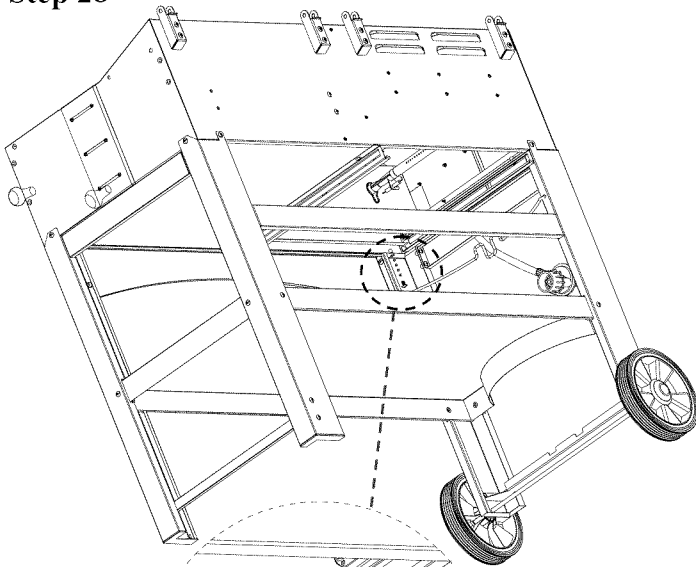
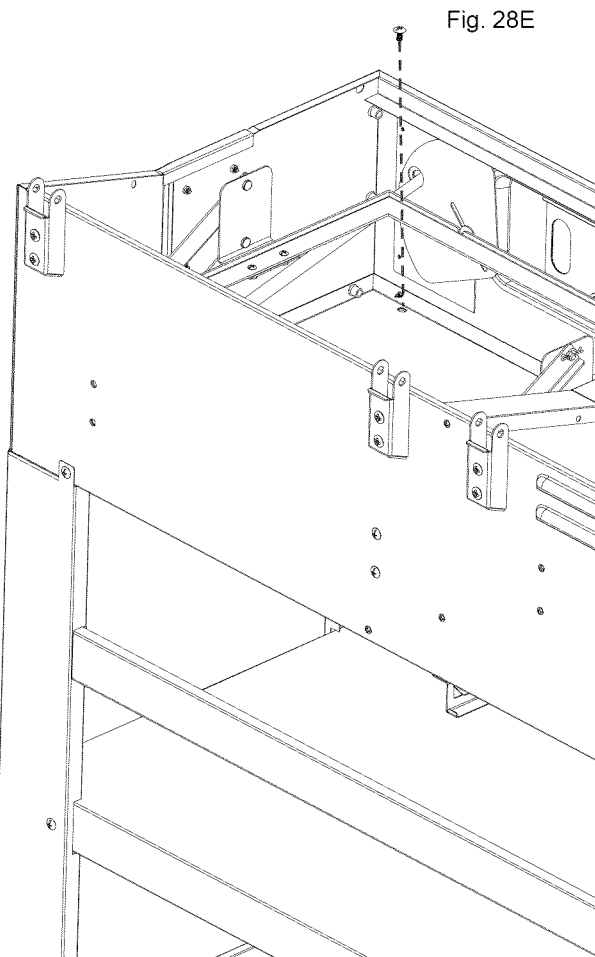

Fig. 28D
Fig. 28E
*Procedure:* Tighten the Left Front Leg #4 and Right Front Leg #2 to the left and right side of bottom flange in the Cabinet using (2) M5x10 bolts as shown as Fig. 28D and Fig. 28E.